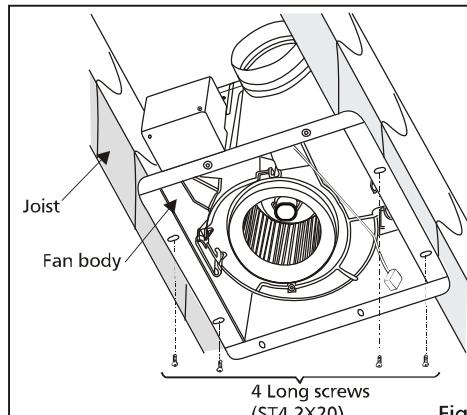

Fig.12
2. Secure 4 long screws (ST 4.2X20) at flange of frame. (Fig.12)